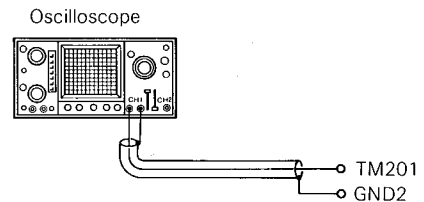

Fig. 14
- (1) Connect oscilloscope to TM201 and GND2. (fig. 14)
- (2) Insert the Philips test disc #5 and place the unit in the play mode. Select track number 12.
- (3) Check to make sure that the track number flashes first and the eye pattern on the oscilloscope stays still.
- (4) Defeat the laser interlock by connecting test points TM203 and TM205 together. In addition, connect TM206 to the jumper wire between TM203 and TM205.
- (5) Within 5 seconds after the above step 4, connect GND2 to TM204.
- (6) If the disc stops, or, starts spinning VERY VERY fast, repeat the above steps from item 2.